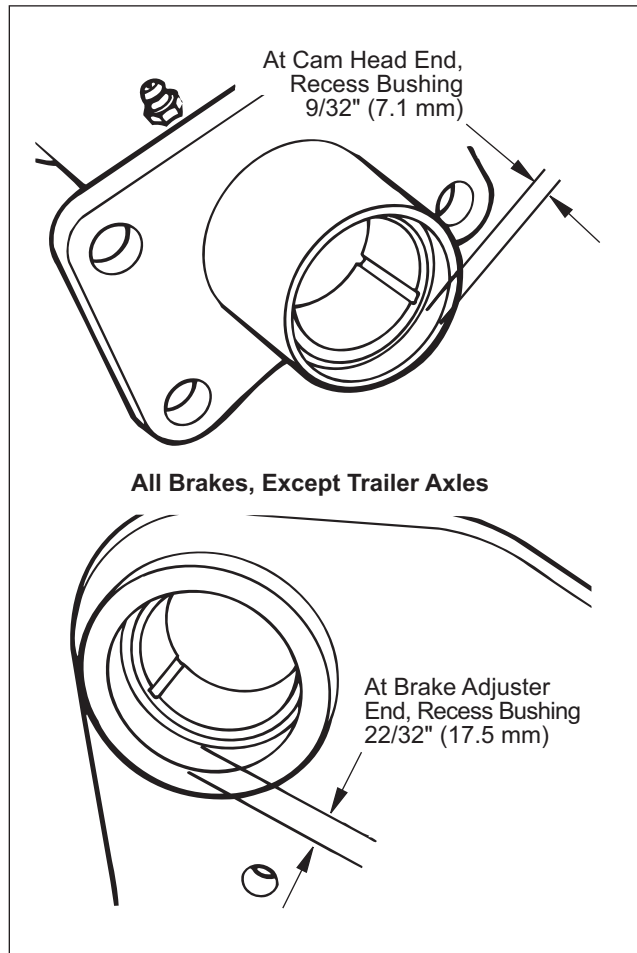

Figure 44. Air Chamber Bracket Bushing Installation
4. Install new bushings in air chamber bracket (Drive and Steer Axles) with a suitable piloted driver. For identification and installation specifications, refer to Figure 44 and Table 7.